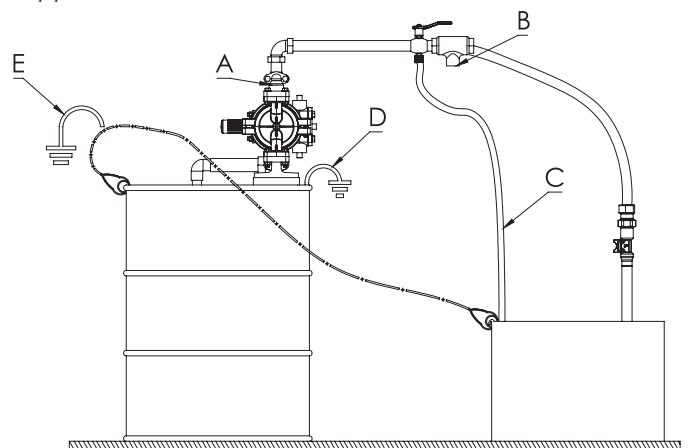

FIGURE 4
- The pumps transferring inflammable and flammable fluids should be grounded against static electricity. (See Figure 4)
Ground the diaphragm pump as shown below (**Figure 4**). Surfaces that contact with fluid in the diaphragm pump should be grounded with metal stainless wire or power cable. Suction and compression lines should be selected from the conductive materials while transferring inflammable and explosive fluids. Grounding should be made just like in the pump in two lines. Do not use nonconductive polypropylene and PVDF bodies in inflammable and explosive fluid transfer.